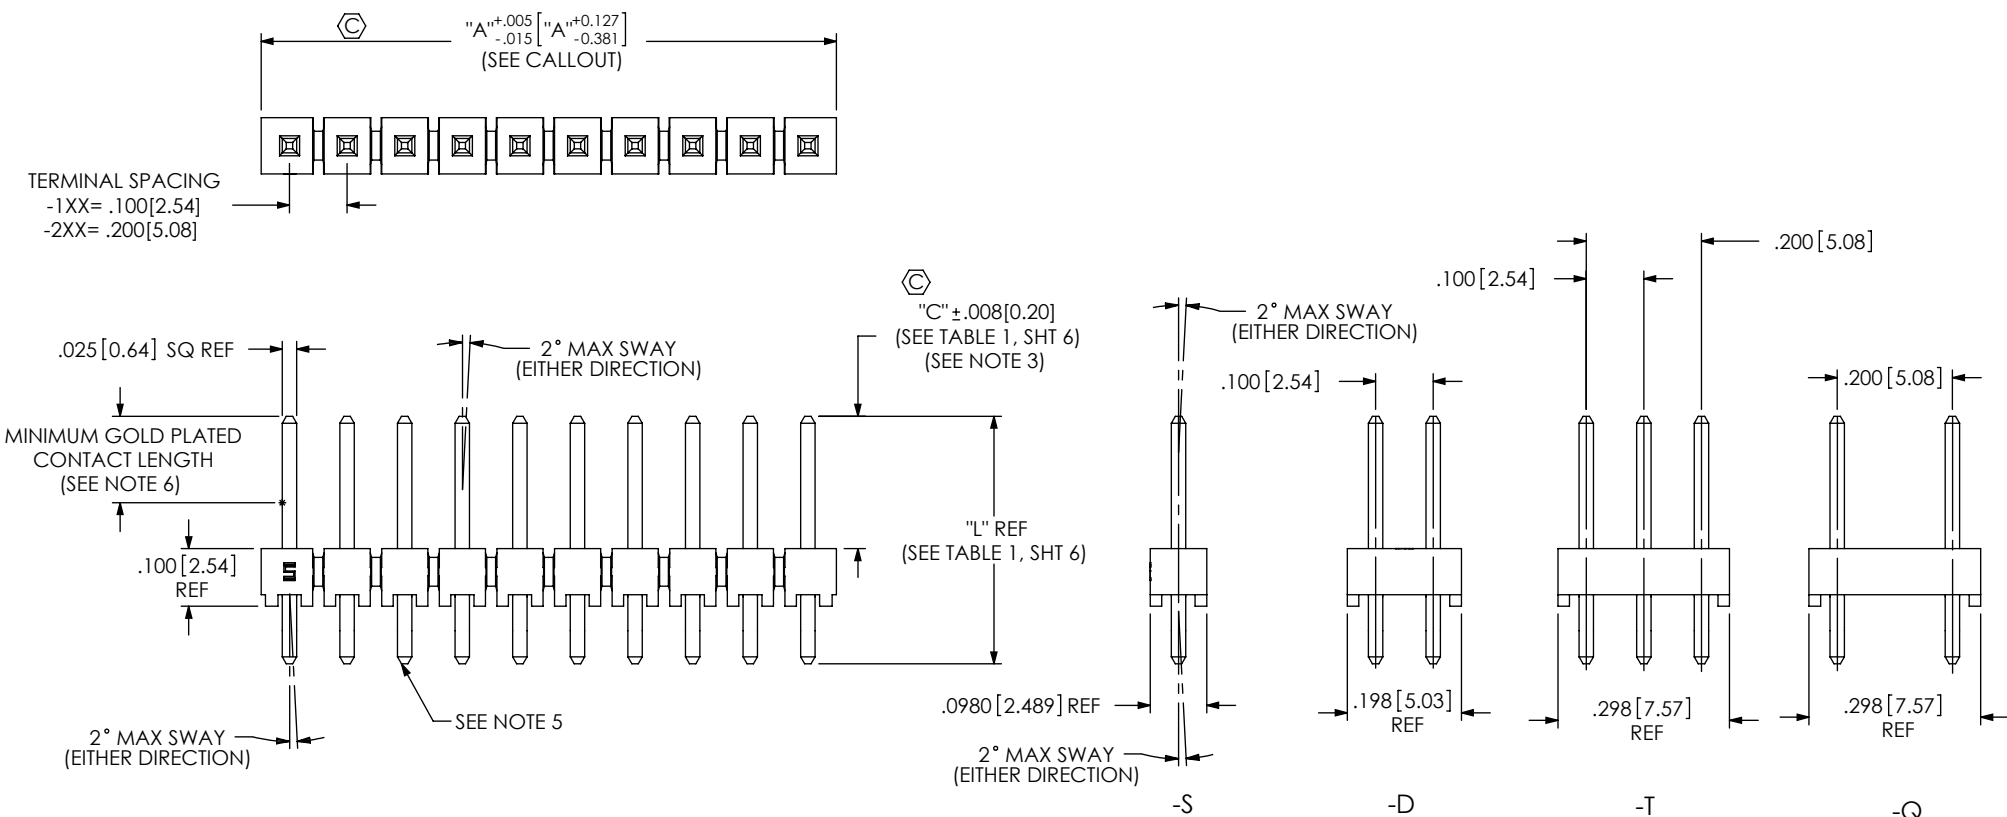

FIG 1
-BLANK: STRAIGHT (SEE FIG 1, SHT 2)
4. ASSEMBLE GOLD PLATE END AS SHOWN IN FIG 1.
SAME AS FIG 1)
(DIFFERENT AS SHOWN, OTHERWISE SAME AS FIG 1)